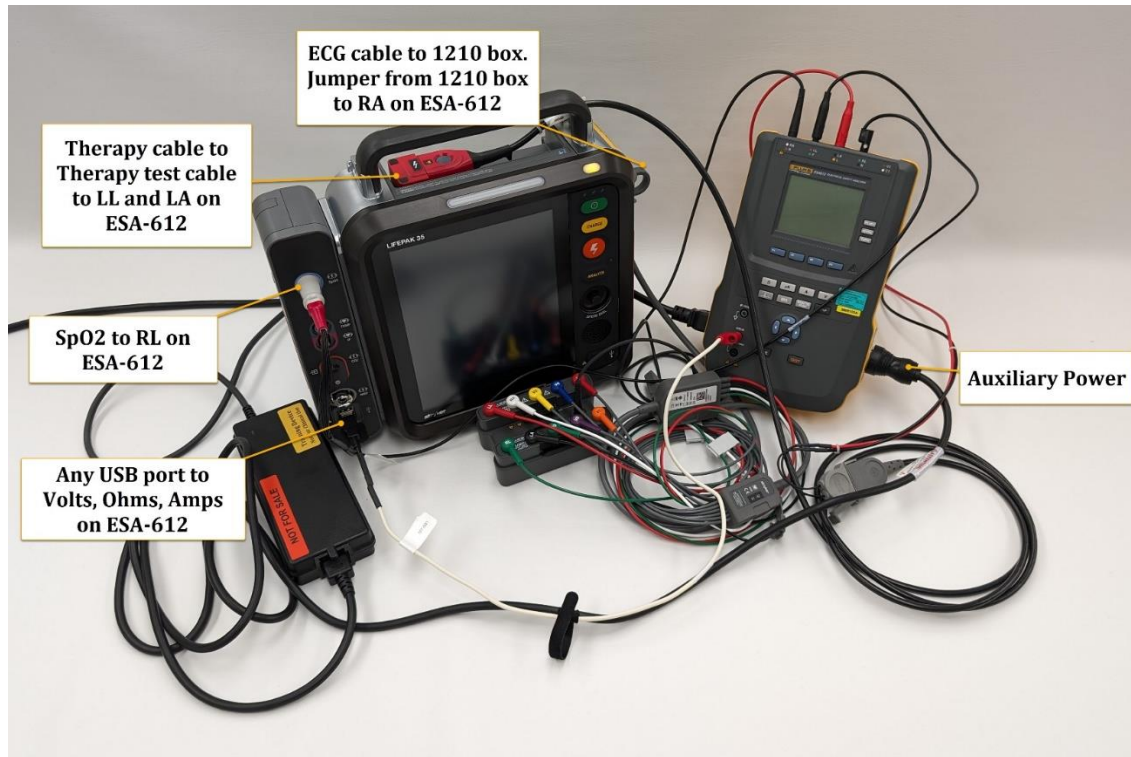

Figure 31
10. Refer to the actual setup in Figure 31 below for reference: